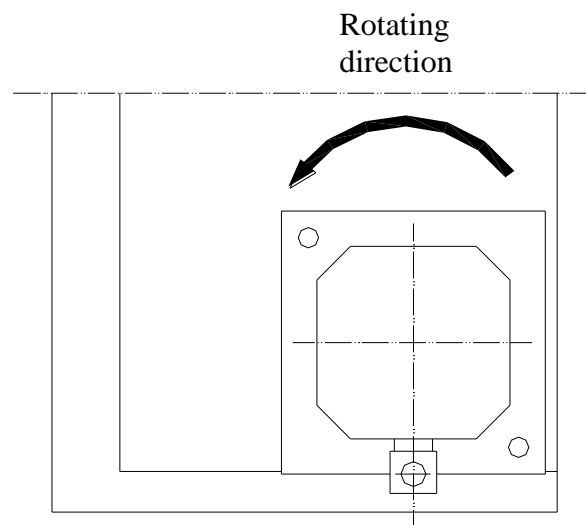

Fig. 1.1 (b) rotating direction of water pump
- The rotating direction of water pump is indicated in the Fig.1.1 (b) .